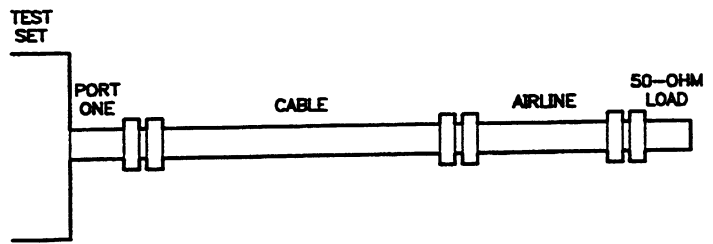

Figure 3-1. Return Loss Test Setup
- b. Connect the equipment as shown in Figure 3-1.